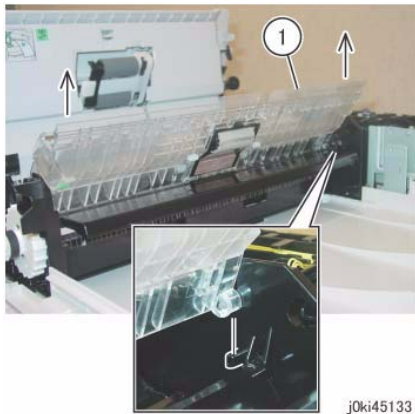

Figure 1 Remove the Retard Chute
7. Remove the Retard Chute. (Figure 1)